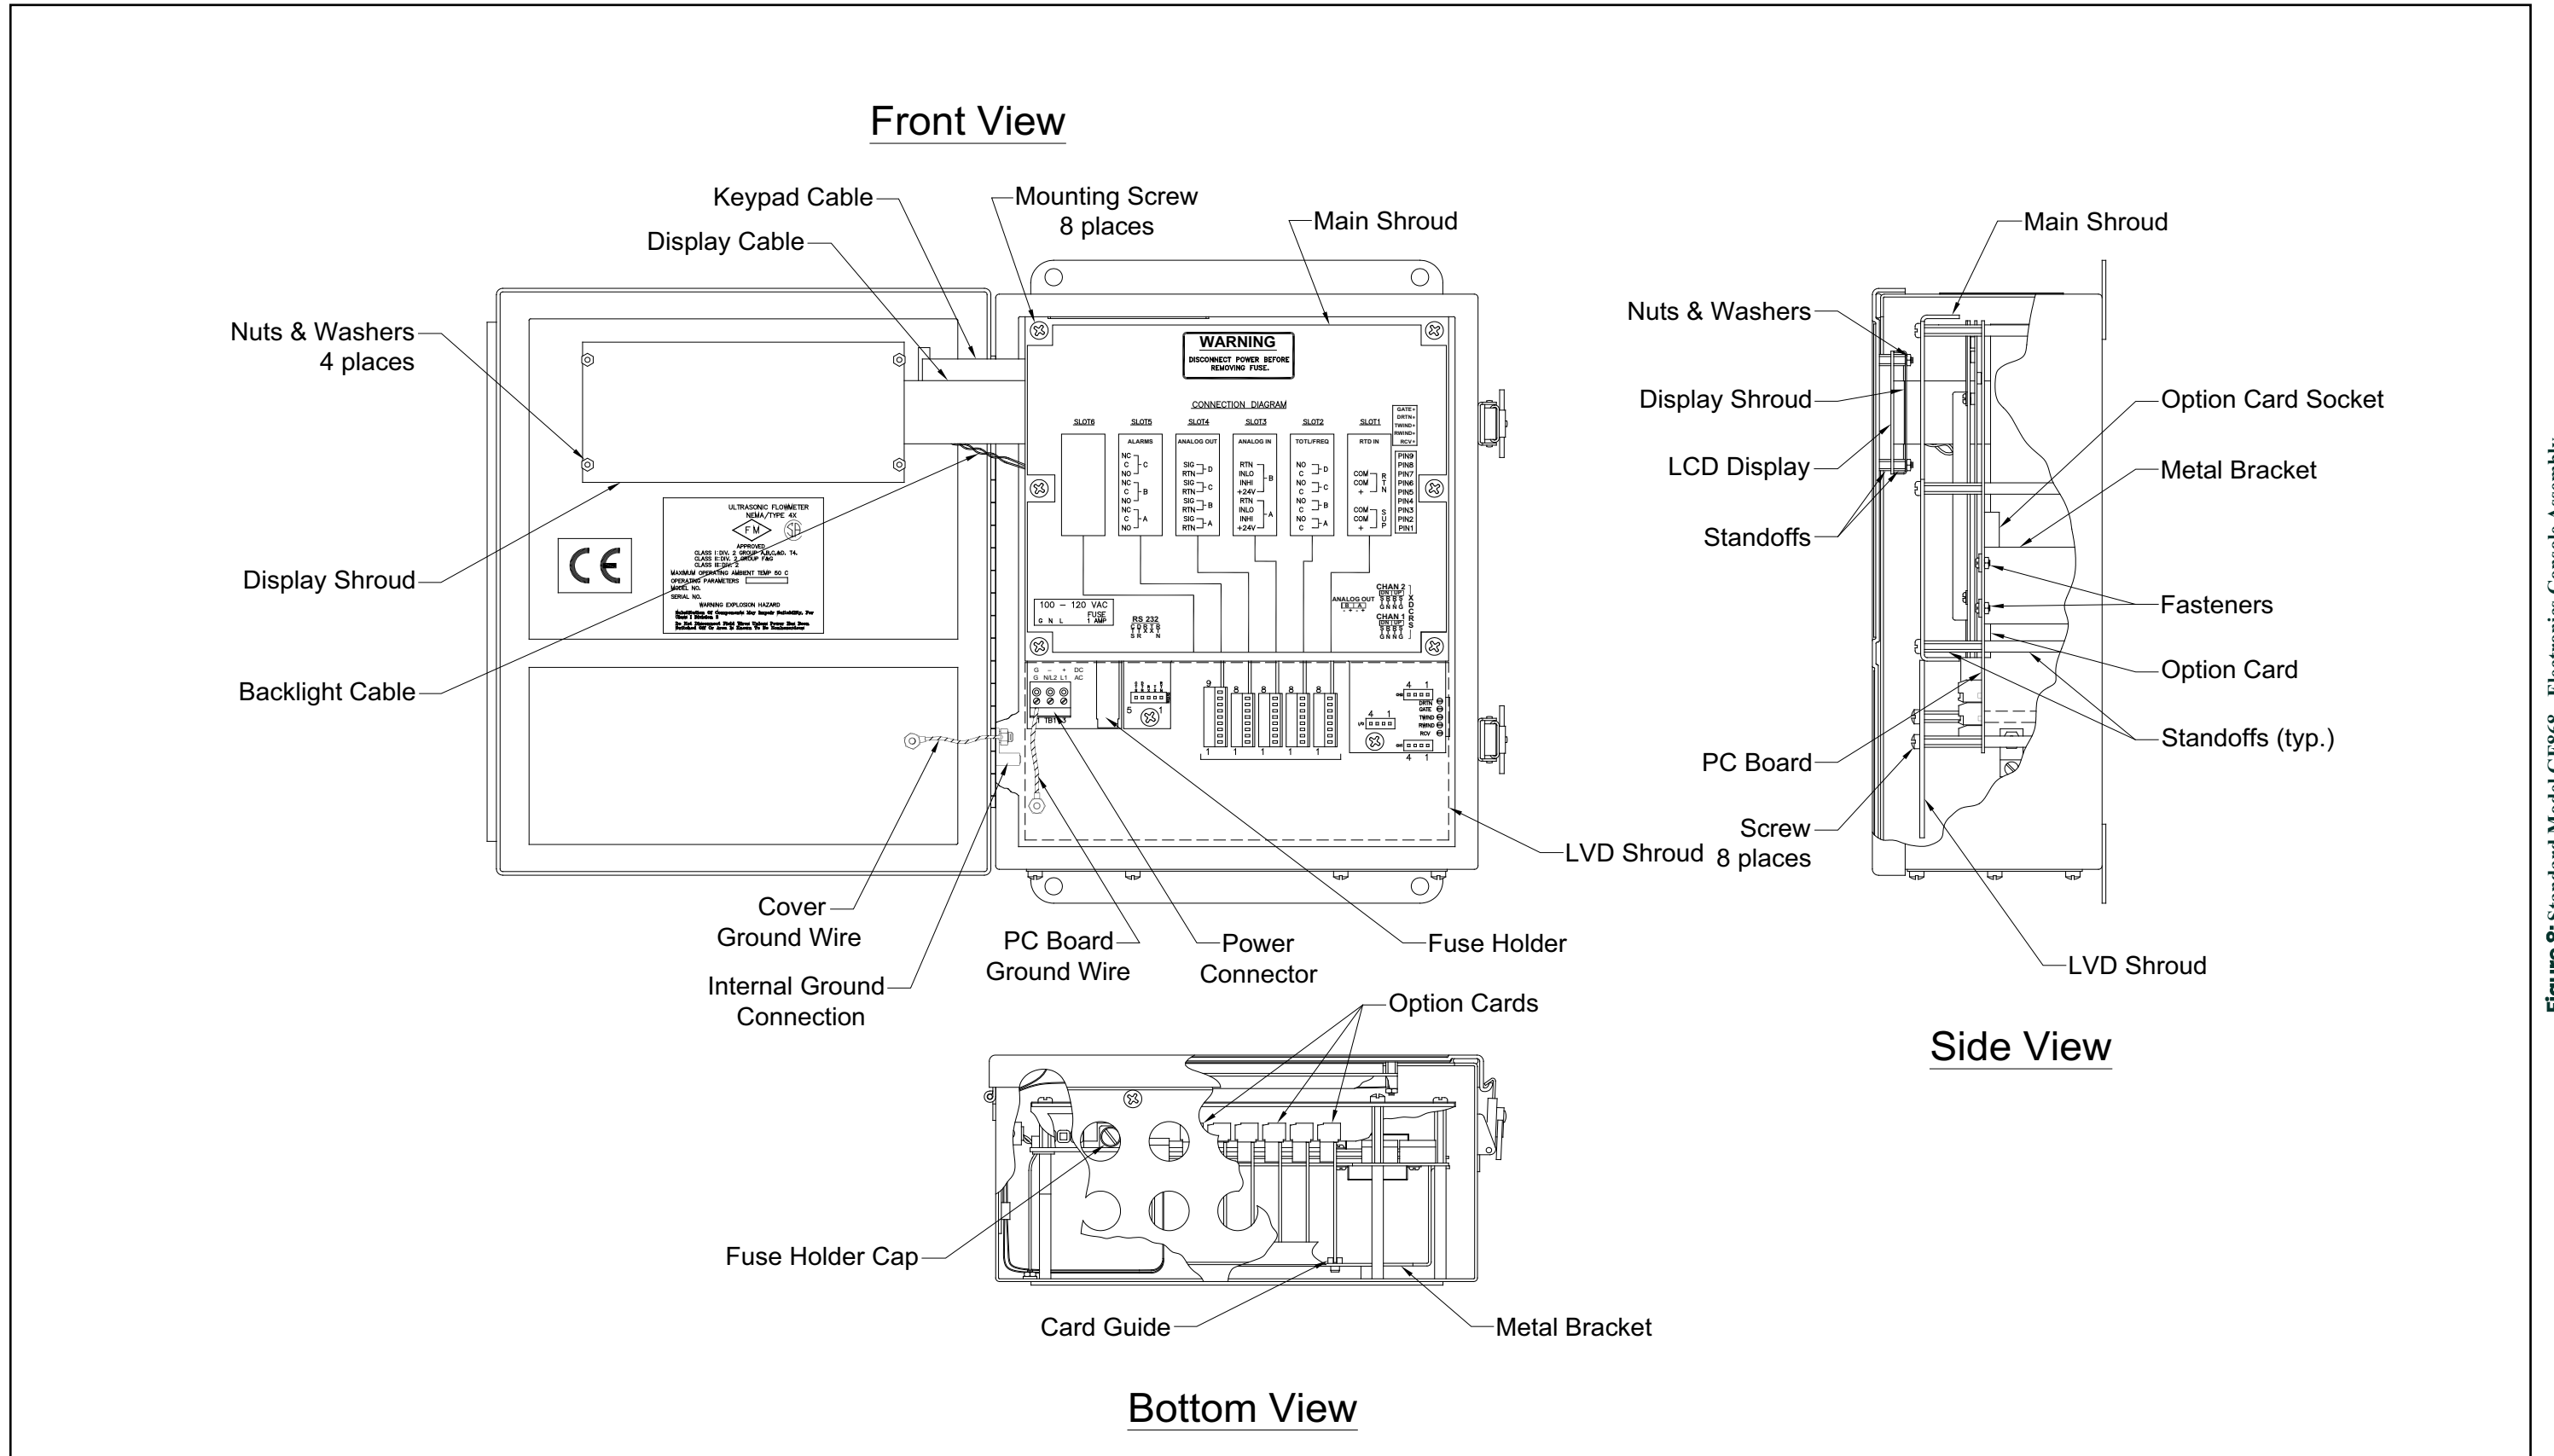
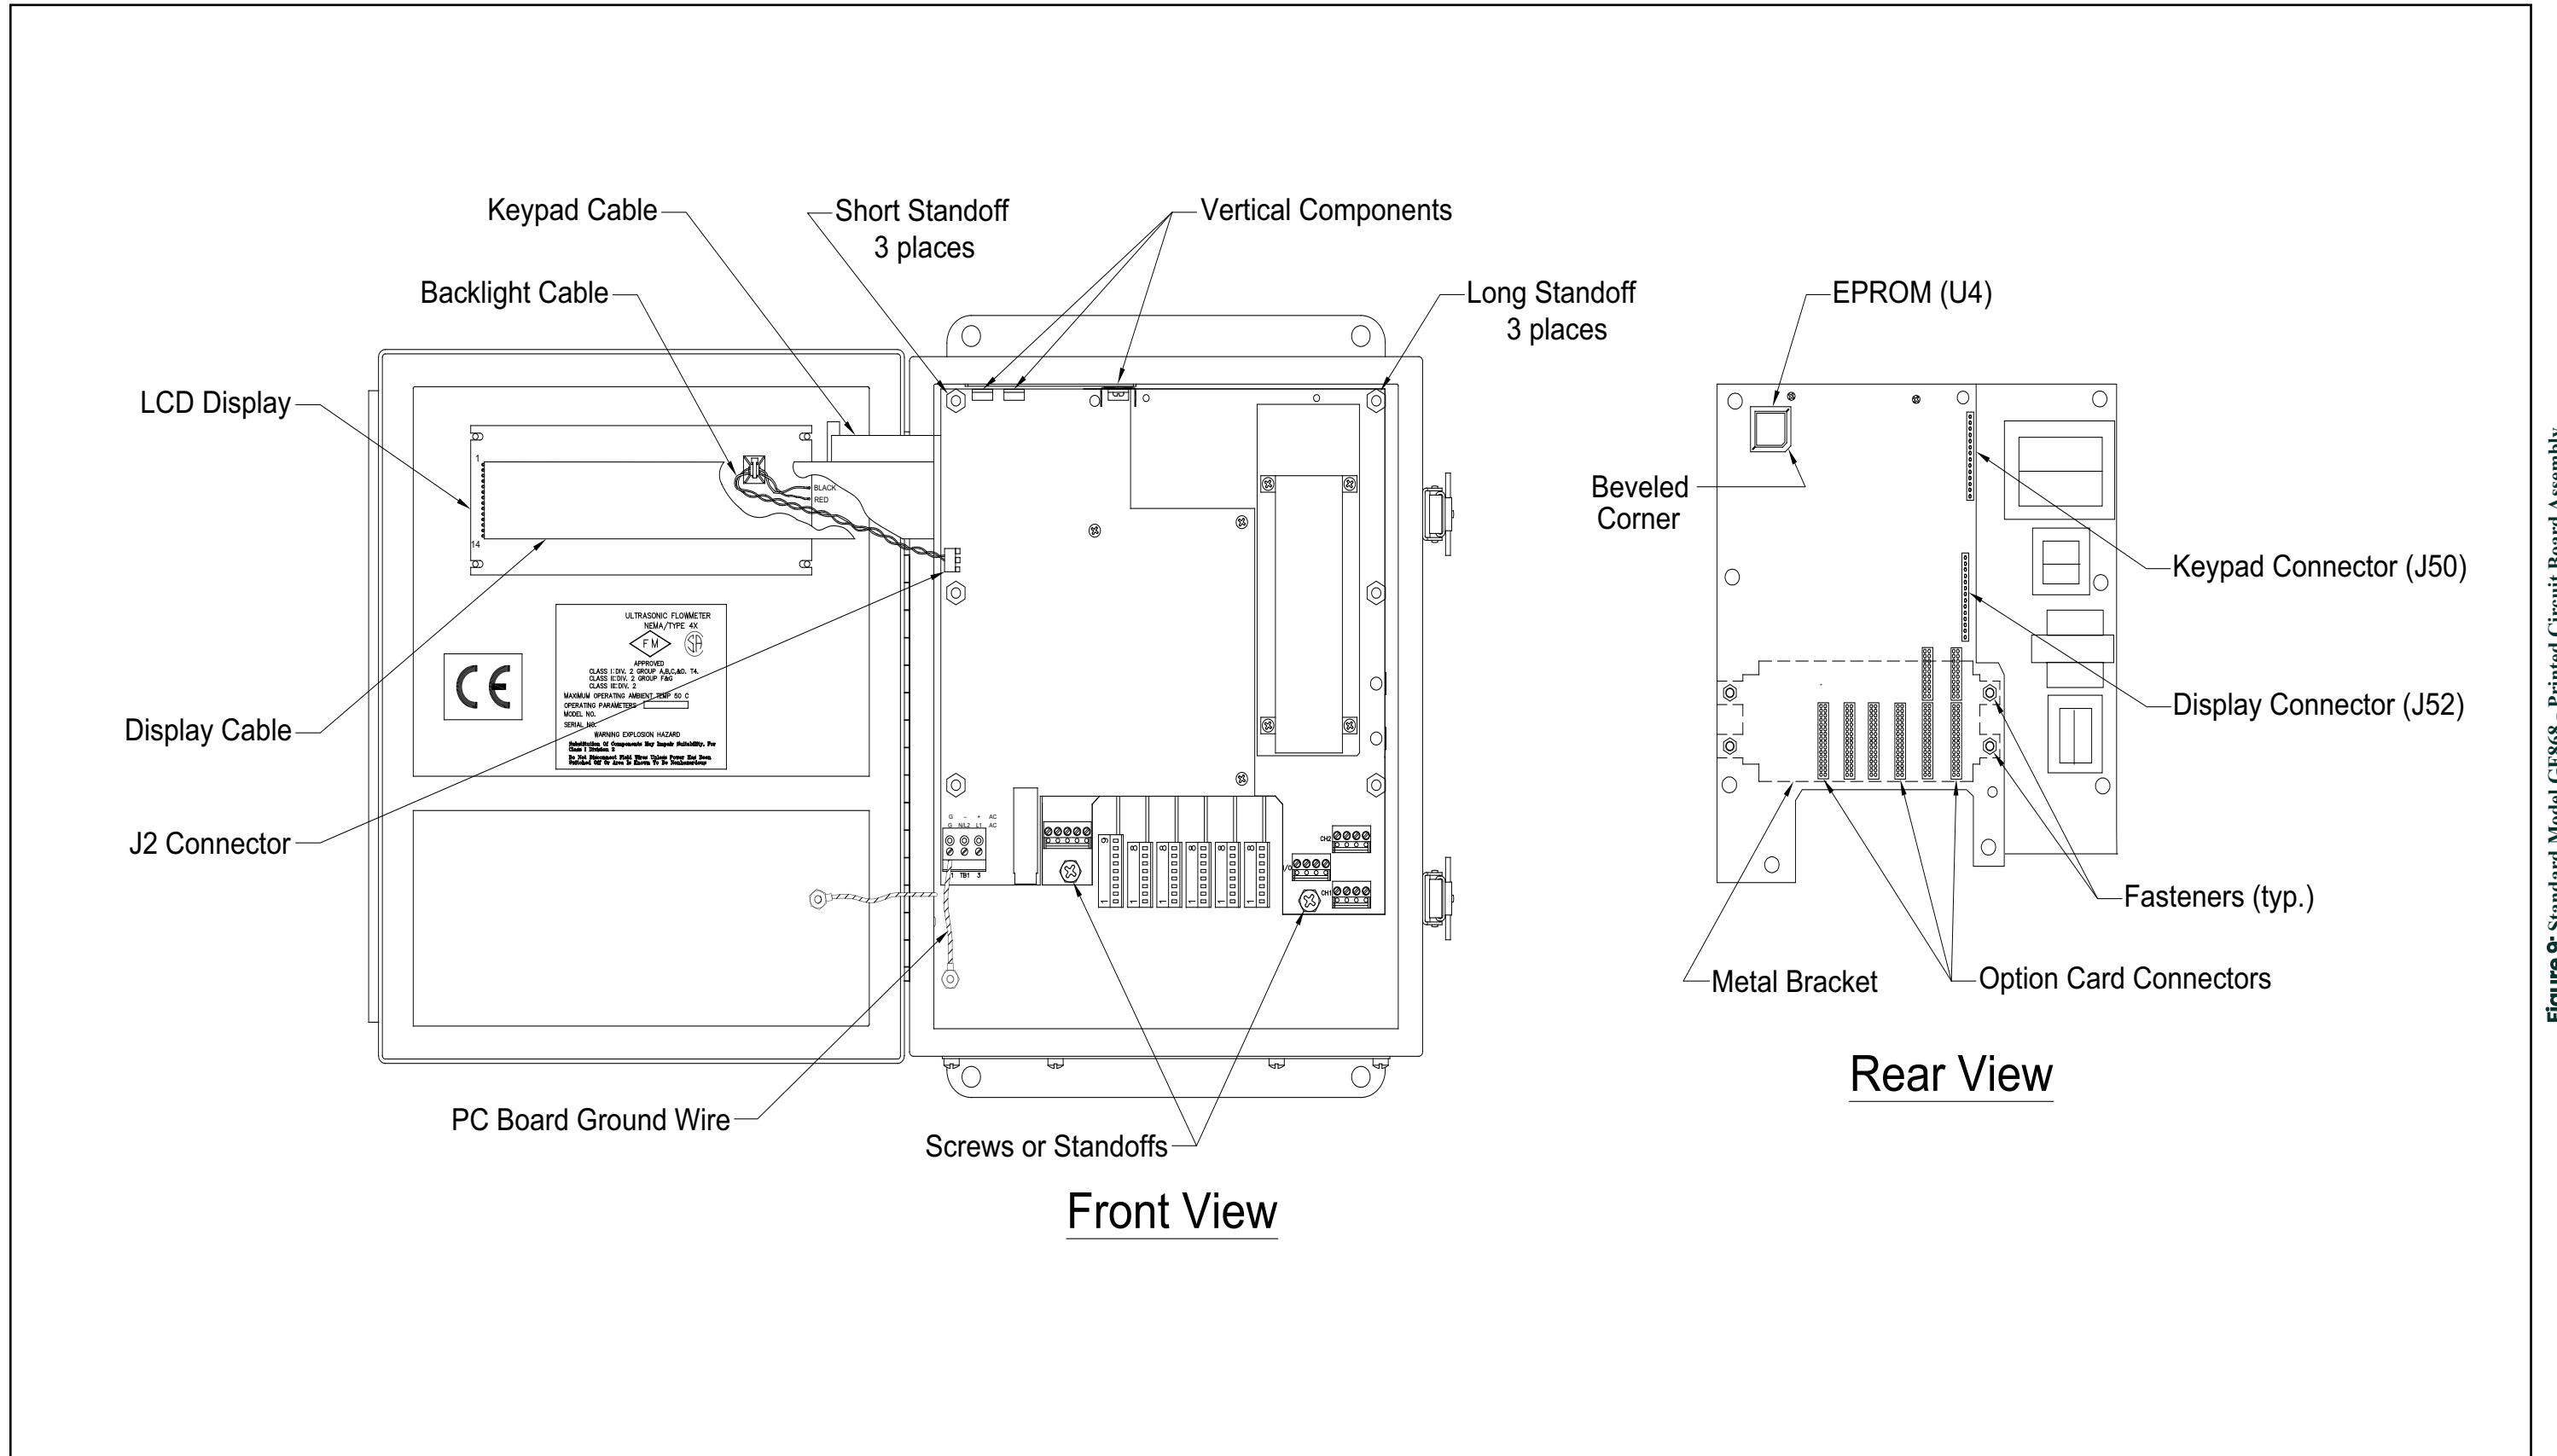

Figure 8: Standard Model GF868 - Electronics Console Assembly
Figure 9: Standard Model GF868 - Printed Circuit Board Assembly
All of the remaining maintenance procedures discussed in this chapter require removal of the printed circuit board. To accomplish this task, see Figure 8 on page 37 and Figure 9 on page 38 while completing the following:
CAUTION! During this procedure, be very careful not to damage the upright components along the top edge of the printed circuit board (see Figure 9 on page 38). Severe or repeated bending of these components will break their leads.
The Model GF868's *User Program* is stored on an erasable programmable read only memory (EPROM) chip. The EPROM, which is designated as component **U4**, is located in the top left corner of the rear of the printed circuit board. See Figure 9 on page 38 for a rear view of the printed circuit board. EPROM replacement may be required to replace a defective chip or to upgrade to a newer software version. To replace the EPROM, complete the following steps:
To install an option card, refer to Figure 9 on page 38 and complete the following steps:
5. Place the metal bracket over the option cards, making sure that all option cards are aligned with the plastic card guides in the bracket. Secure the metal bracket to the printed circuit board with the snap rivets provided. Refer to the installed assembly in Figure 8 on page 37.
The Model GF868's measurements are displayed on a two-pane LCD graphic display panel. The LCD display normally provides years of dependable service, but it is easily field-replaceable when necessary. To replace the LCD display, see Figure 8 on page 37 for the component locations, and complete the following steps:
4. Place the new LCD display assembly over the mounting studs on the console cover and fasten it in place with the four standoffs. Make sure that the LCD display assembly is oriented as shown in Figure 9 on page 38.
Whether the printed circuit board was removed for replacement or for one of the other procedures discussed in this chapter, reinstallation of the printed circuit board is the final step in the process. Refer to Figure 8 on page 37 and complete the following steps:
CAUTION! During this procedure, be very careful not to damage the vertical components along the top edge of the printed circuit board (see Figure 9 on page 38). Severe or repeated bending of these components will break their leads.
1. Position the printed circuit board within the electronics console with the top edge tilted forward. Insert the display ribbon cable and keypad ribbon cable connectors into their sockets on the rear of the printed circuit board. See Figure 8 on page 37 and Figure 9 on page 38 to identify the cables and sockets. Note that the keypad cable connects to the upper socket and the display cable connects to the lower socket.